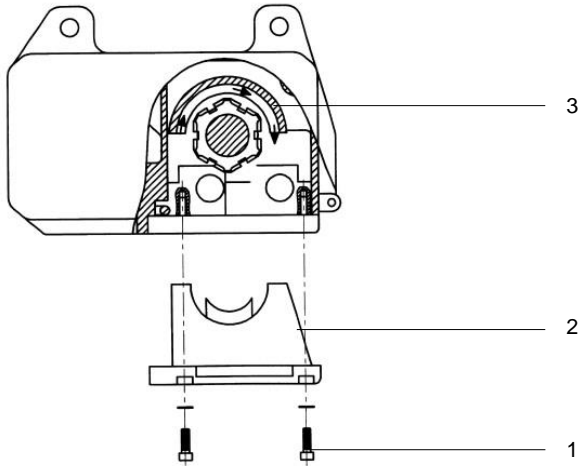

Figure 16: Replacing the load chain, the chain guide and hold down
3. Loose the four screws (part no. 1 in Figure 16) of the chain guide, than take the chain guide out of the hoist (Figure 15 C) and pull the U-shaped fork back.